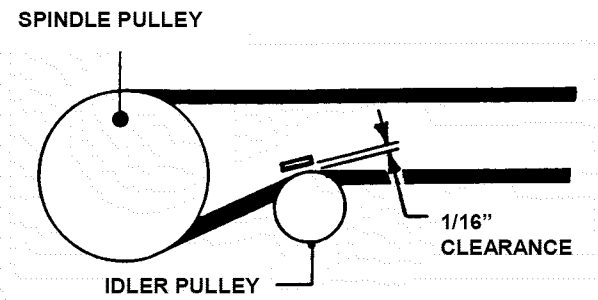

FIGURE 4.38
7. Adjust idler pulley belt guide if necessary to obtain 1/16" clearance between belt and belt guide. See Figure 4.38.